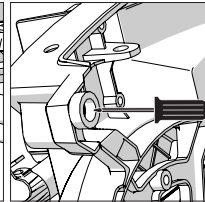

Fig. 12
- Remove and safely store the four plastic feet from underneath the base of the mitre saw. **(Fig. 12)**